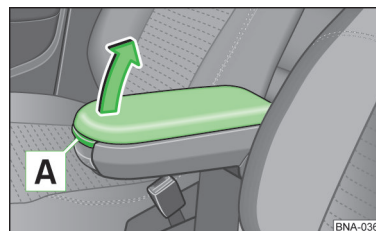

Fig. 47
- To **open**, push the safety button **A** and lift the lid of the storage compartment in the direction of arrow » fig. 47.